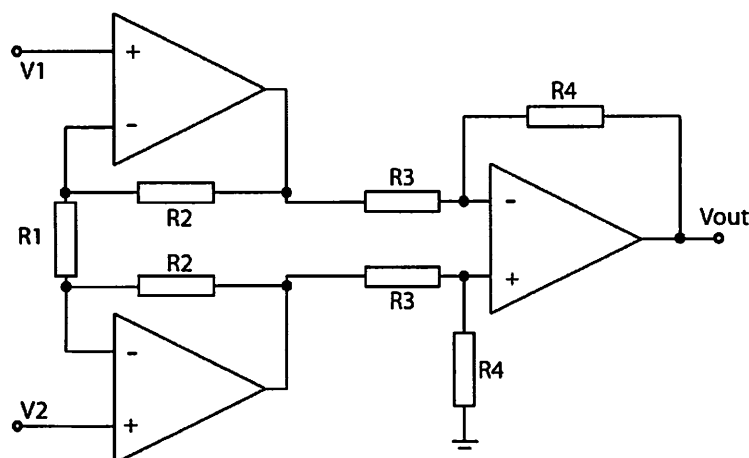

Figure 1.1
b) Table 1.1 lists five commonly observed bio-potentials and their amplitude and frequency characteristics. A doctor requires an instrumentation system to record activity from the muscles from a paralysed patient. The front end will use the instrumentation amplifier shown in Figure 1.1
c) The doctor checks his electrodes and finds that when connected, the electrode tissue interface impedance is  $10\text{M}\Omega$ . Calculate the minimum input impedance of the instrumentation amplifier Figure 1.1 that will guarantee an attenuation of less than 10% of the sensed bio-potential voltage. [4]